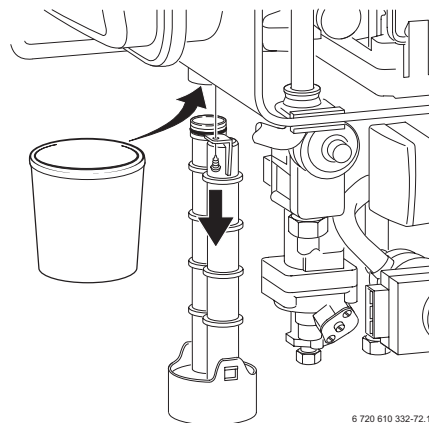

Fig. 51
- ▶ Unscrew condensation trap and place suitable container underneath. Refer to fig. 51.
In order to prevent spillage of condensate, the condensation trap should be completely removed, (see page 34, fig. 51).